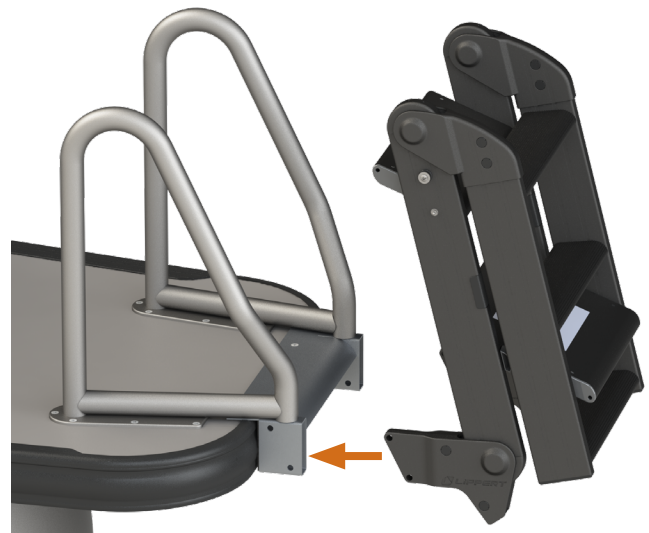

Fig. 4
8. Insert the ladder into the mounting brackets (Fig. 4).